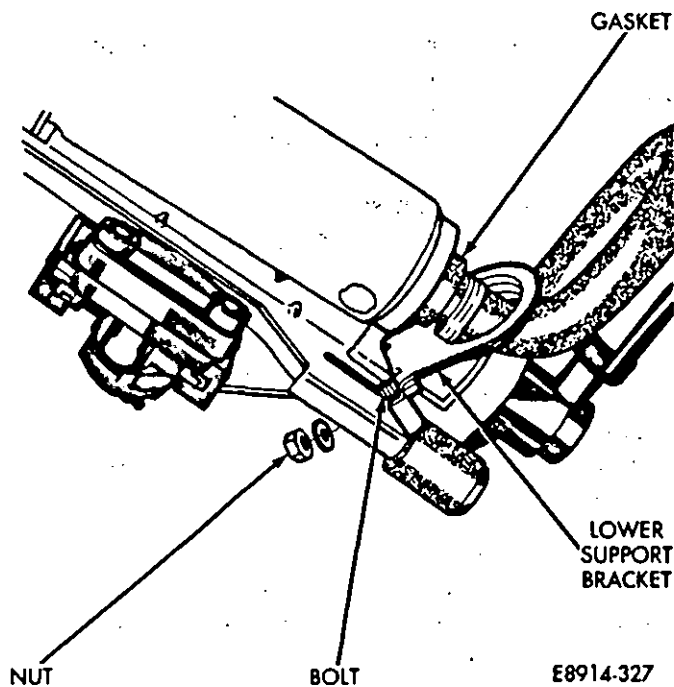

Fig. 19—Fuel Pump Lower Support Bracket
(5) Unscrew fuel pump lower support bracket nut. Remove the fuel pump support bracket, gasket and bolt (Fig. 19).
(2) Position lower gasket and holding bracket at bottom of fuel pump. Install the bolt through lower support bracket and rail. Tighten nut and bolt securely (Fig. 19).